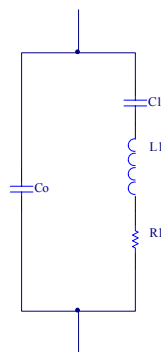

Figure 1. Electrical circuit equivalent model of a piezoelectric device.
Piezoelectric materials are mainly capacitive devices. Because of this, many of the parameters and characteristics of the devices can be represented as an electrical model of a series/parallel resonant circuit. Some of the important parameters of the device are series resonant frequency (F_s), parallel or anti-resonance (F_p), quality factor (Q), equivalent capacitance (C_1), equivalent inductance (L_1), series resistance (R_1) and parallel capacitance (C_0) to name a few. The electrical model is shown in figure 1.